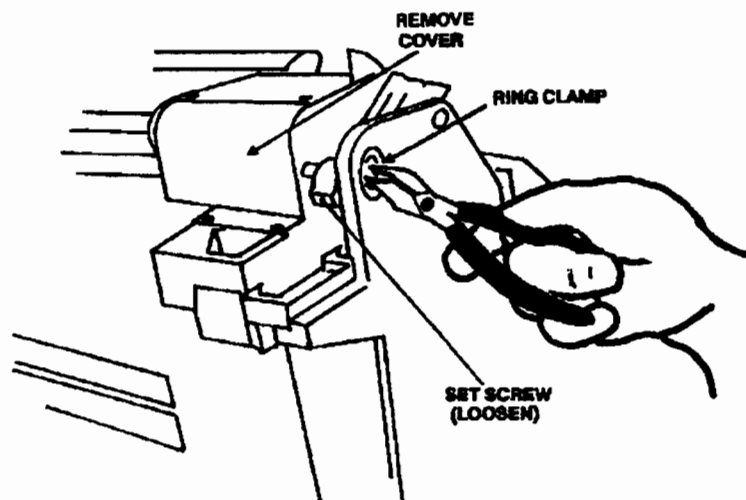

Figure 13. Set Screw and Ring Clamp
- b. Remove the four pozi-drive screws securing the lower part of the right print mechanism cover and remove this cover (see Figure 13).
- d. Remove the ring clamp from the right end of the shaft (Figure 13).
- e. Loosen the set screw in the platen gap handle (Figure 13).